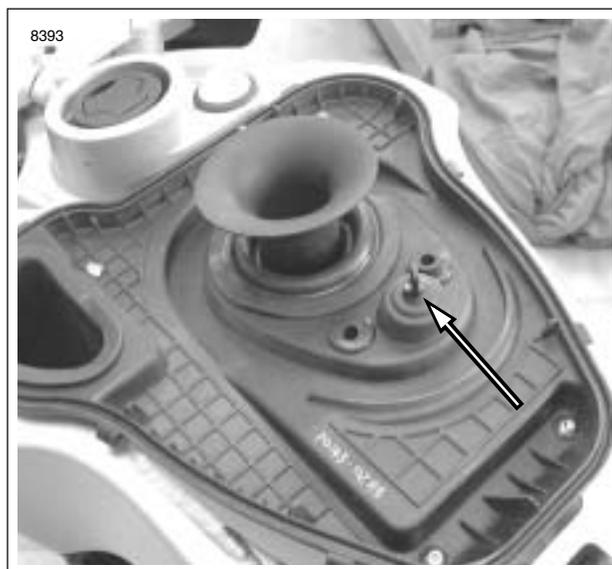

Figure 4-46. Intake Air Temperature Sensor Installed
2. See Figure 4-46. Remove airbox cover, filter. Remove fasteners securing base. See 4.30 AIRBOX.